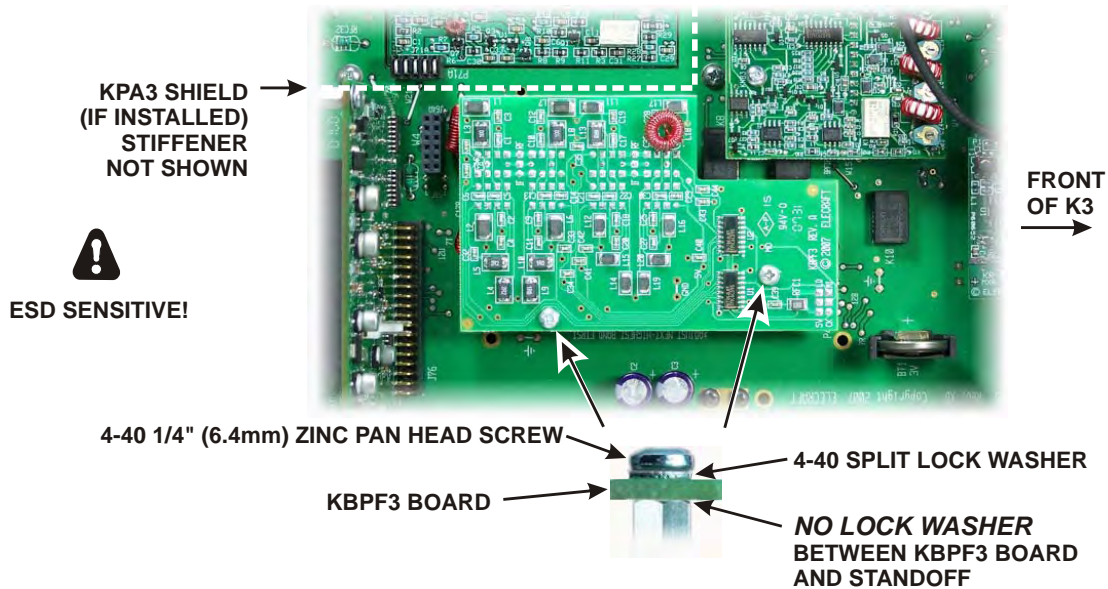

Figure 76. Installing the KBPF3 Option Board.
□ Install the board on the standoffs you installed earlier as shown in Figure 76. The screws and lock washers needed are supplied with your KBPF3 Option kit. There are three connectors on the bottom of the KBPF3 board that must be properly mated to P44A, P44C and P44E on the RF board. Even though the connectors are hard to see if the KPA3 shield is installed, they can be aligned as follows: